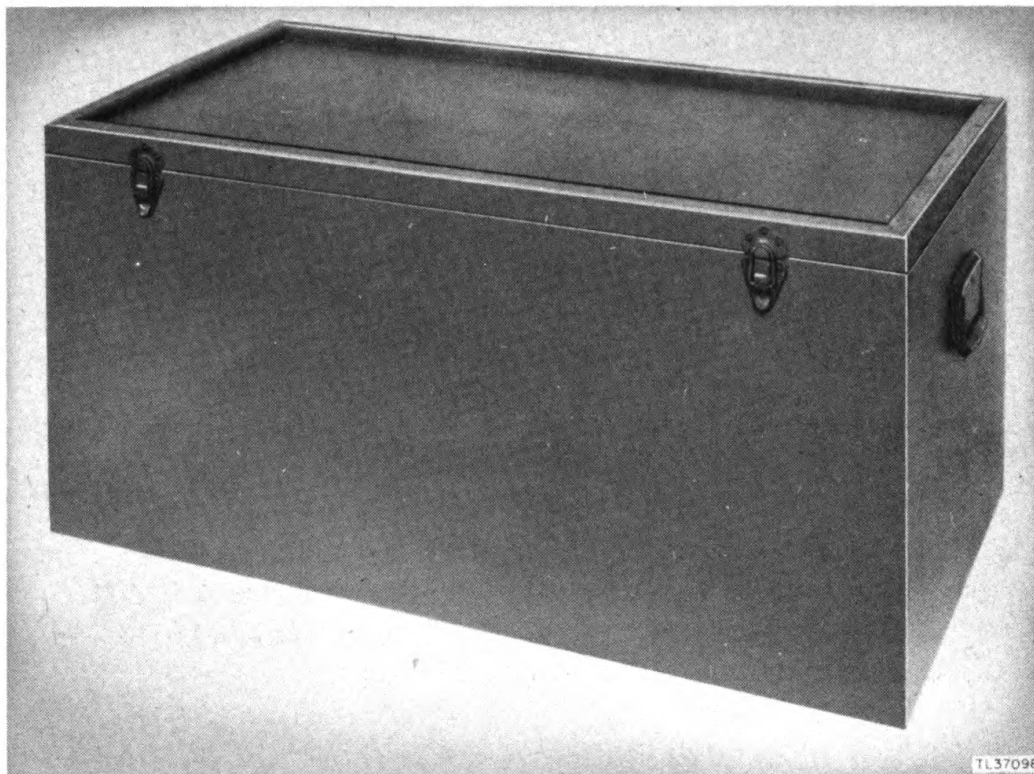

Figure 19. Chest CH-273.
26. CHEST CH-273 (fig. 19).
(1) Inspect the cords regularly for worn or damaged insulation. If any such places are found, repair or replace the damaged cord immediately.
(2) When using the test equipment, arrange it so that the cords are not resting on any sharp objects or stretched over the edge of the bench or any test equipment. Make no sharp bends in the cords, since these may result in damage to the wire or insulation.
d. Chest CH-273. Clean the chest (fig. 19) periodically to prevent dust and dirt from accumulating in the test sets when they are stored. Scrape off broken or cracked paint and repaint the affected area. Use sandpaper to remove the paint and to prepare the surface for the new coat of paint.